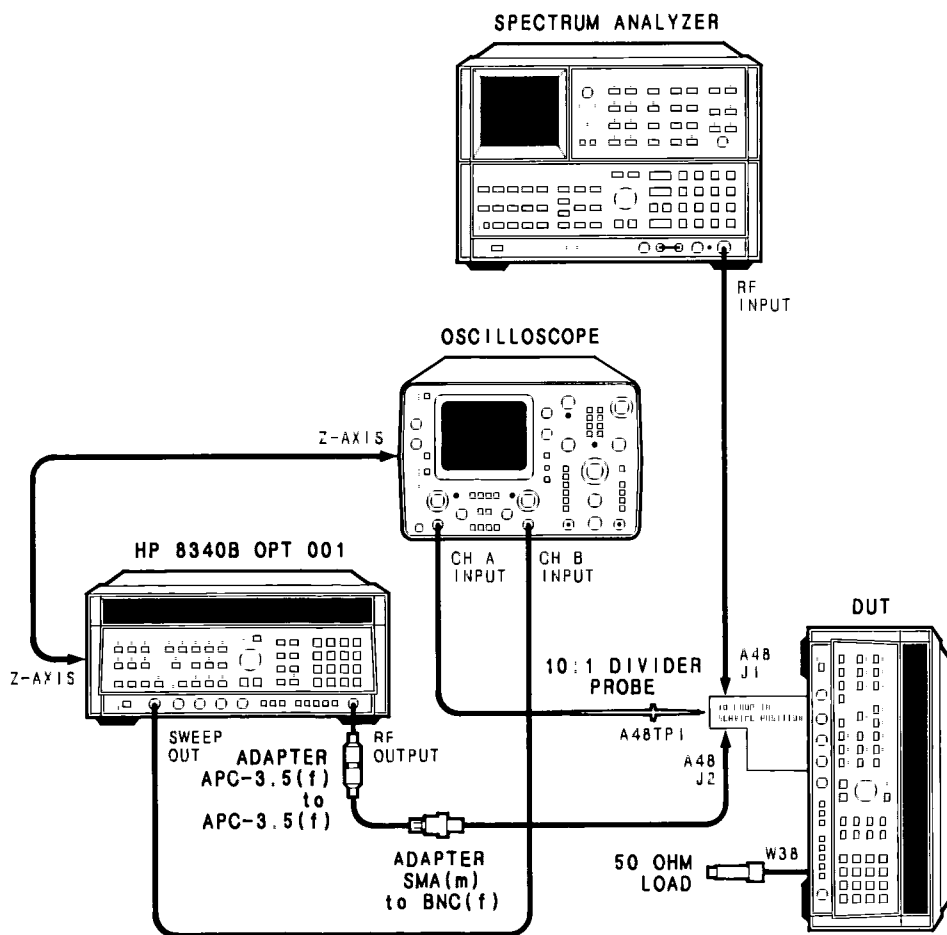

Figure 5-18. YO Loop Adjustment Setup
1. Place the DUT in the test position shown in Figure 5-18 and remove the top and bottom covers. Disconnect the rigid cable (W3) going into the A45 Directional Coupler RF Output through a hole in the mother board (top of the DUT). Put the YO Loop section in the Service Position. Disconnect all the cables that connect to A48 and A49 PC boards. Remove the A48 YO Loop Sampler assembly cover. Connect a 50 Ohm load to W38 at the end that connects to A49J2.
2. Connect the test equipment as shown in Figure 5-18 (do not connect the Spectrum Analyzer yet). Set the LINE switch to ON and allow ½ hour warmup.